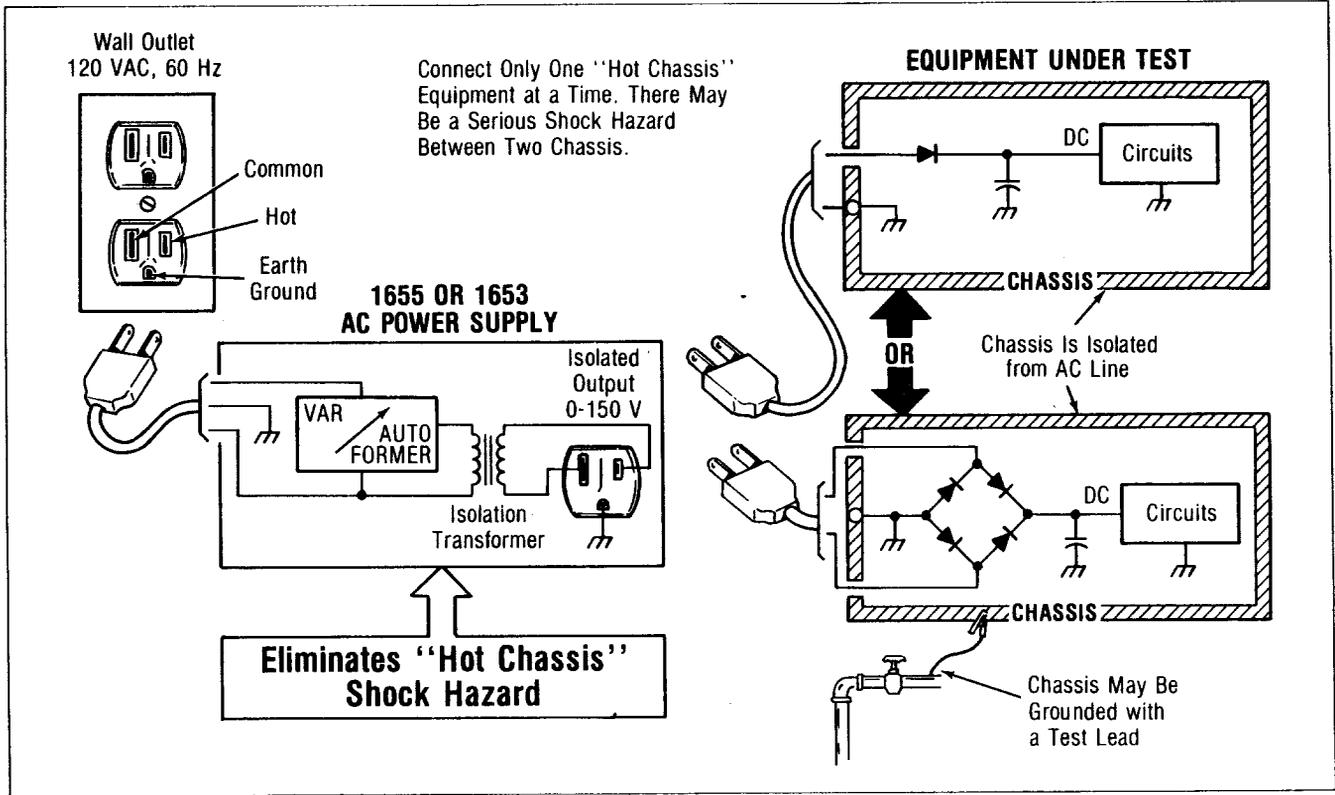

Fig. 8. Eliminating the Hazard of Servicing Transformerless Equipment.
As shown in Fig. 8, when an isolation transformer is used, the chassis of the equipment under test is electrically isolated from both sides of the power line. The chassis of the equipment under test may now be grounded by connecting a test lead from the chassis to a convenient earth ground (such as an earth ground terminal of the test equipment).
4. Connect the ac power plug of the equipment under test to the ISOLATED OUTPUT receptacle of the ac power supply. This provides the isolation as shown in Fig. 8.